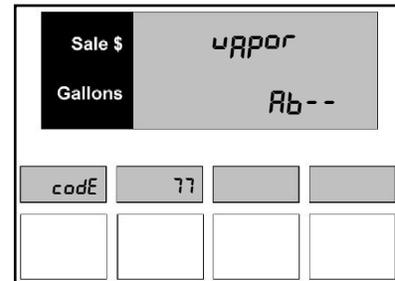

Figure 77.1 – Vapor Recovery
1. Press the number **7** and **7**, then the **Mode** button on the keypad. The price display shows the dispenser is in Menu Code 77, and the current settings for vapor recovery will be shown in the lower half of the main display, as shown in *Figure 77.1*.